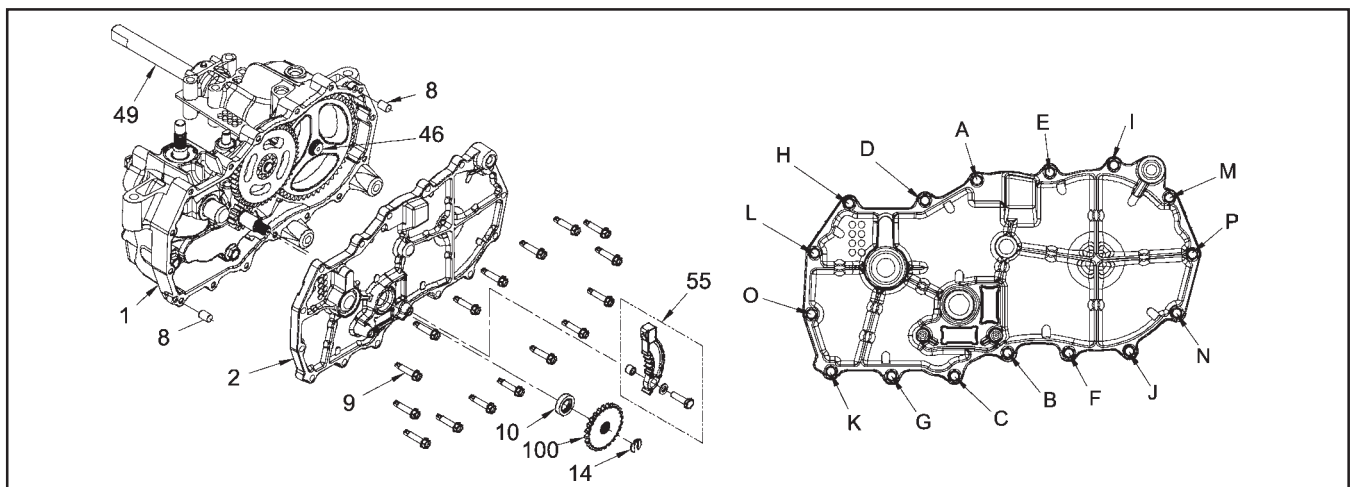

Figure 7. Cog Brake and Side Housing Assembly
Refer to Figure 7.
3. Remove the brake arm assembly (55), retaining ring (14) and cog brake disc (100).
4. Remove the lip seal (10).
5. Remove the housing screws (9).
6. Pull the side housing (2), leaving the axle (49) and bull gear (46) assembled in the main housing. It may be necessary to use screwdrivers at the pry points to break loose the sealant (positions H-L and M-P, Figure 7).
2. Install the locating pins (8), if not already installed.
3. Install the side housing (2). Use care not to smear the sealant bead.
4. Install the side housing screws (9). Refer to the screw tightening pattern in Figure 7 and torque specification in Table 6 on page 12.
6. Install the brake disc (100), retaining ring (14) and brake arm assembly (55).